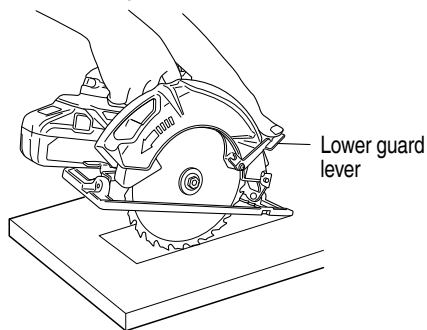

Fig. 35
1. Mark the desired cutting area clearly with lines all side. (See Fig. 35)
3. Push the lower guard lever all the way back so the blade is exposed as shown in Fig. 35.